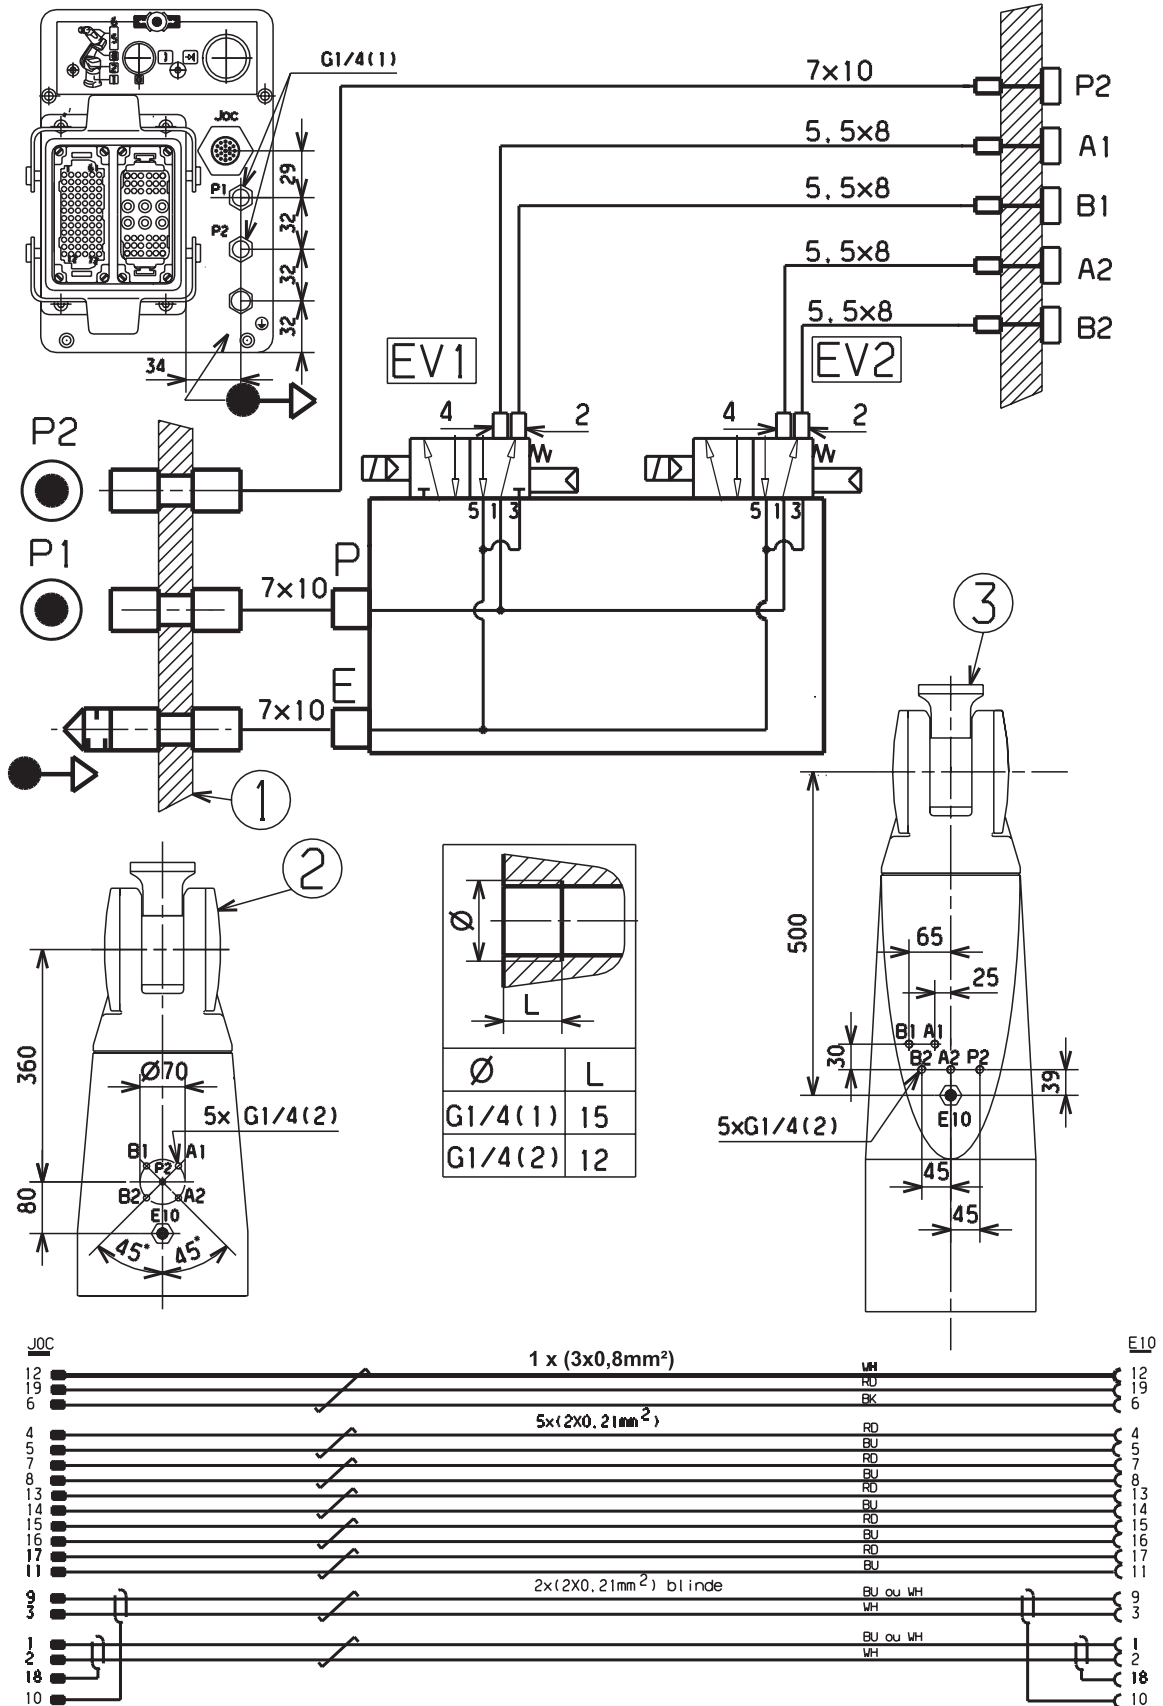

Figure 1.8
Description (figure 1.8)
1.8.2. ELECTRIC CIRCUIT (figure 1.8)